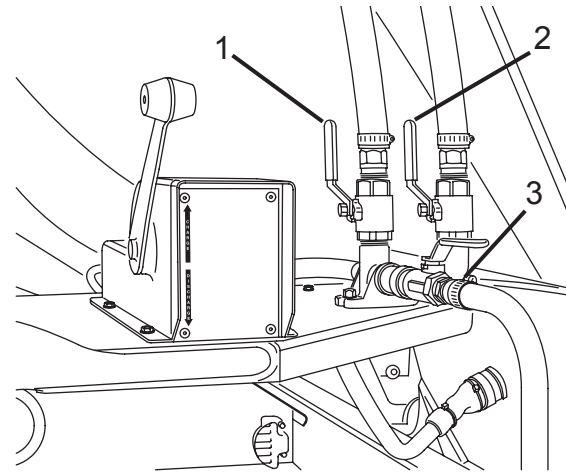

Figure 112
- Open wash-out hose valve (Figure 112, Item 3) at the rear of the Mixer and allow water to drain.
- Open wash-out valve (Figure 112, Item 1) and add-water valve (Figure 112, Item 2) and allow water to